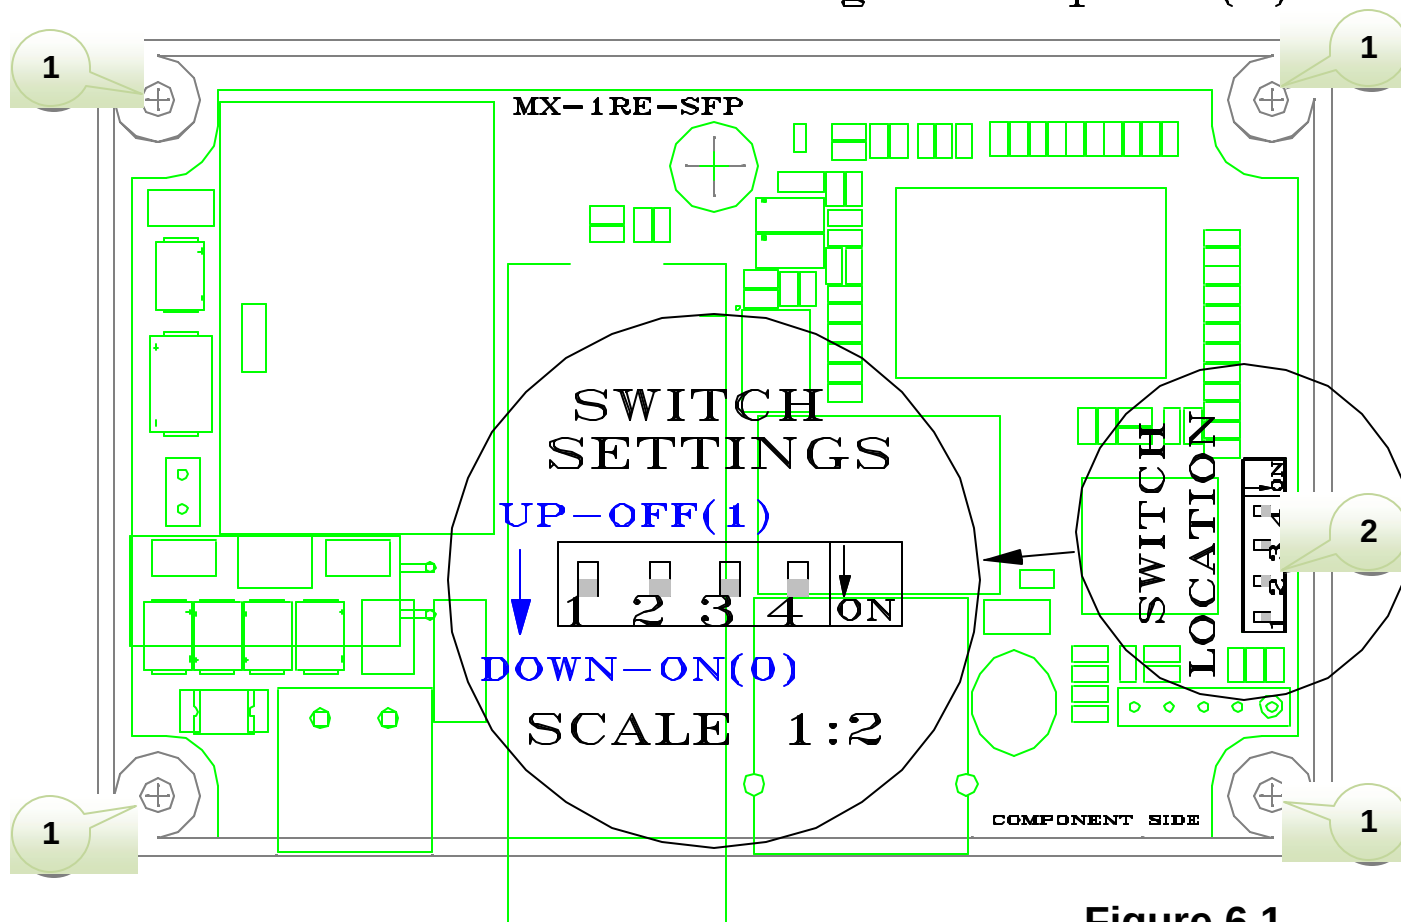

Figure 6.1
3. Configured the proper format options according to the table in Figure 6.1